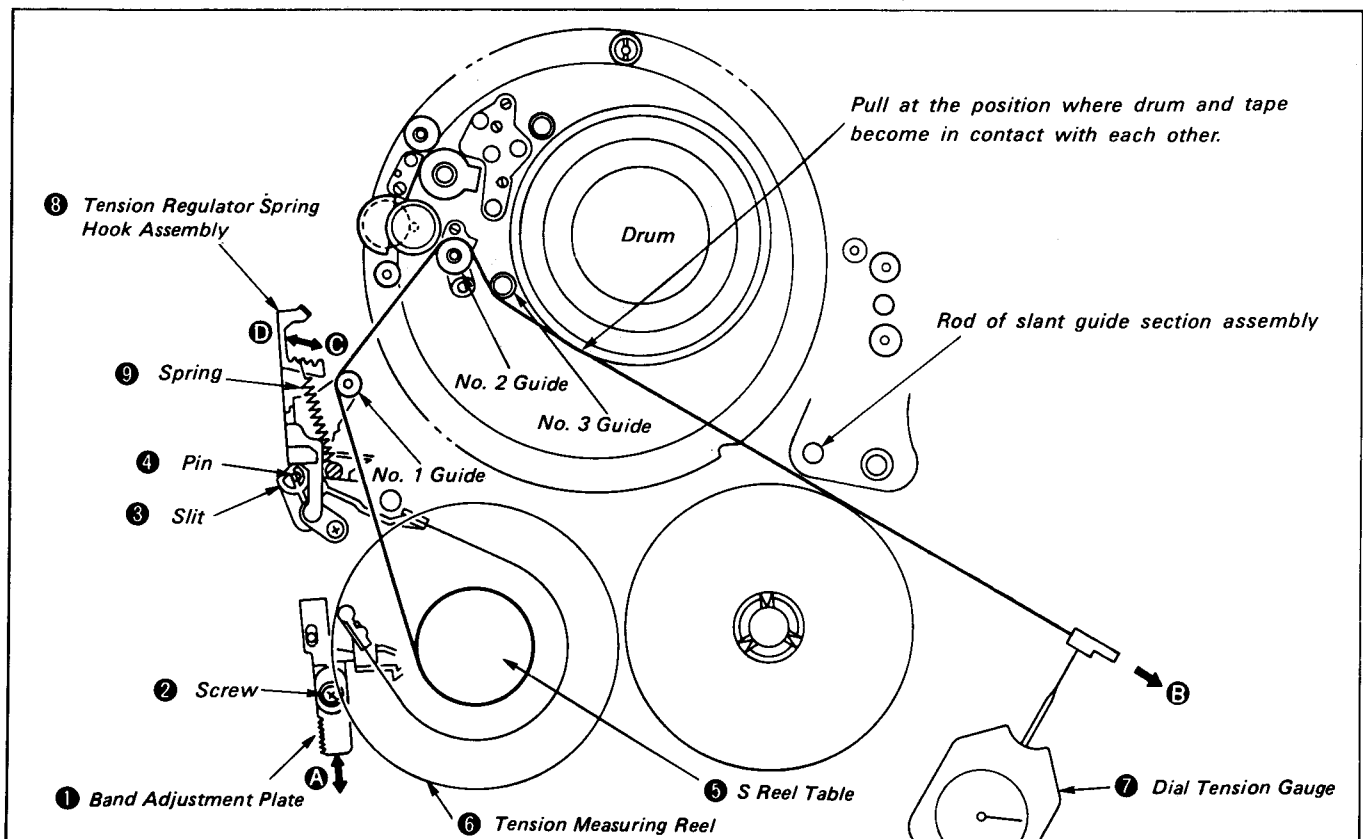

Fig. 8-54.
- 2) Loosen the screw ② of the band adjustment plate ①, adjust the slit ③ and pin ④ of the tension regulator arm assembly to be in the position shown by the arrow A in the Fig. 8-54, then tighten the screw ②.
- 3) Place the reel (Ref. No. J-7) ⑥ to measure tensions on the S reel table ⑤ and run a tape along No. 1, 2 and 3 guides and the drum.
- 4) Pull the dial tension gauge (Ref. No. J-6) ⑦ in the arrow B direction and re-place the spring ⑨ on the tension regulator spring hook assembly ⑧ as mentioned below so that the value becomes $13.0 \pm 1g$. (See Fig. 8-54.)